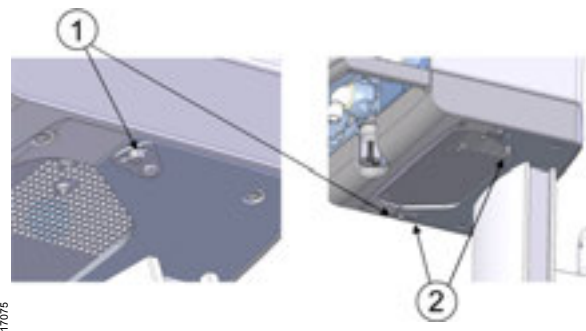

Fig. 40 View from below of trolley mount: Nuts and screws
- 1 Loosen the nuts (Fig. 40/1) on the left and right sides of the trolley slightly and turn the two screw locking plates fully aside.
- 2 Remove the screws (Fig. 40/2).
- 2 Fit the Savina 300 on the trolley by the screws (Fig. 40/2), applying a tightening torque of Nm +/- Nm.
- 3 Push the screw locking plates on the left and right sides of the trolley all the way out and tighten the nuts (Fig. 40/1).